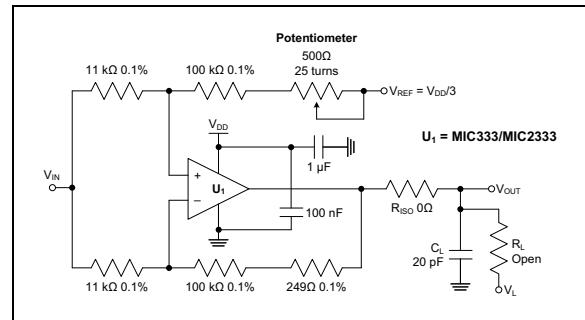

FIGURE 1-6: Test Circuit for Dynamic Input Behavior.
- Note 1:** These parameters were characterized using the circuit shown in Figure 1-6. In Figure 2-29 and Figure 2-30, there is an inter-modulation distortion (IMD) tone at DC, a residual tone at 100 Hz and other IMD tones and clock tones.
The circuit shown in Figure 1-6 tests the dynamic behavior of the input: inter-modulation distortion (IMD), start-up time (t_{STR}), offset correction settling time (t_{STL}) and output overdrive recovery time (t_{ODR}).